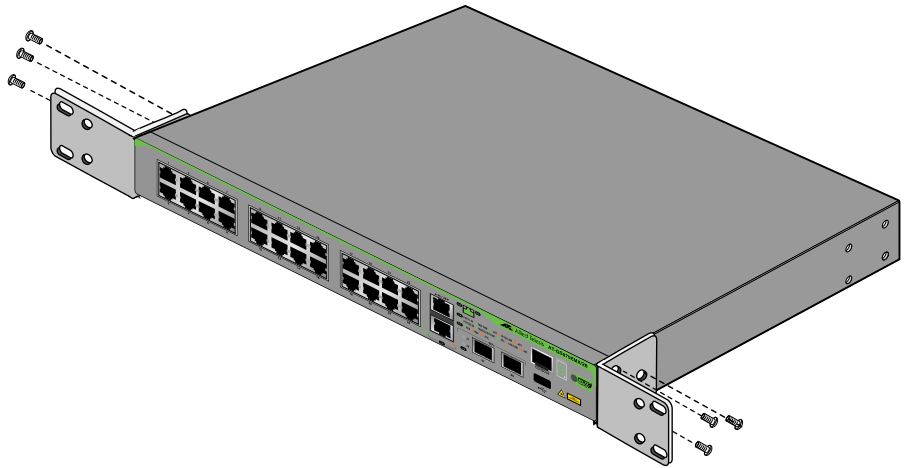

Figure 41. Attaching the Equipment Rack Brackets to the GS970EMX/28 Switch
2. Attach the equipment rack brackets to the sides of the switch with the six 4x8mm screws included with the device. The brackets can be installed on the switch only one way. Refer to Figure 41.